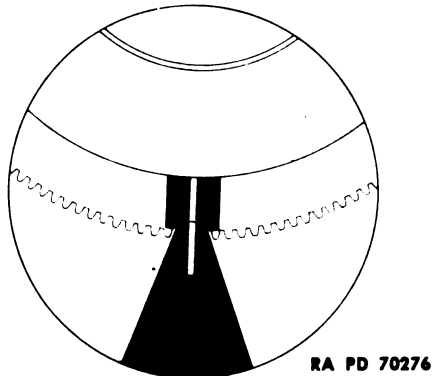

Figure 72 — Zero Deflection Lines in Matching Position
a. Turn the azimuth handwheel until the zero deflection marks on the multiplying mechanism line up (fig. 72); then pull out the rate setting clutch. The rate setting clutch should pull them into line (as determined in subpar. b, below) even if they are set slightly to one side or the other.